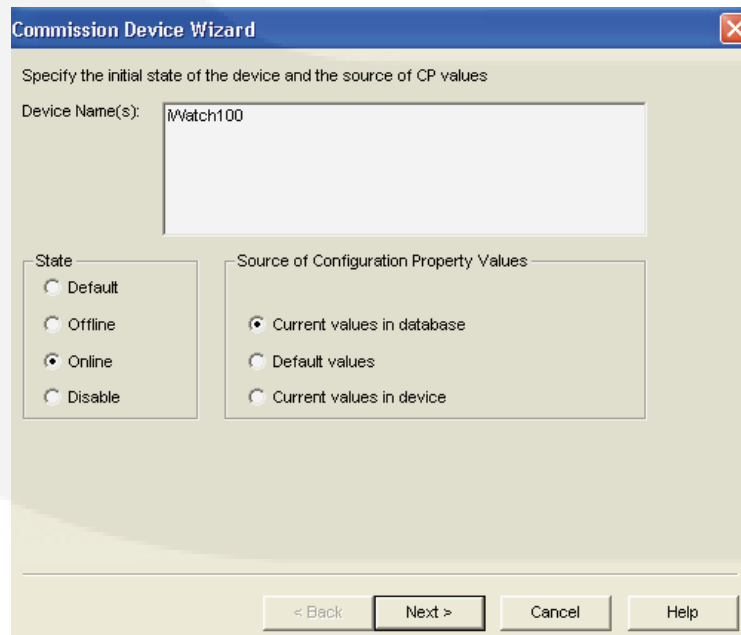

FIGURE 4-31. SELECTING ONLINE FOR STATE
2. When you choose “Commission”, options will appear on the Commission Device Wizard box (see Figure 4-31). Choose **Online** for a “State.”